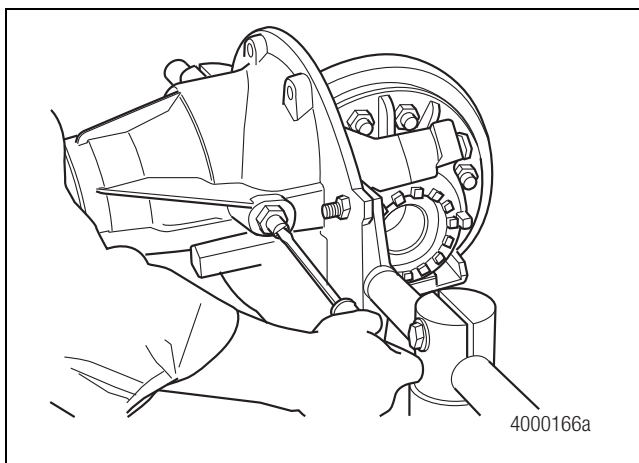
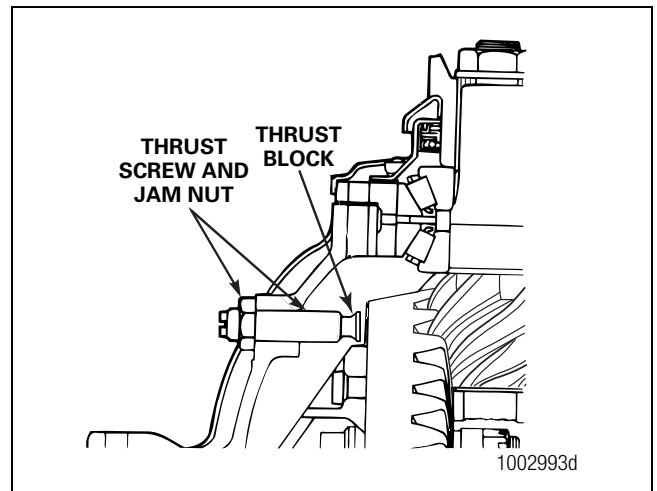

Figure 3.9
Figure 3.15
3. Loosen the jam nut on the thrust screw. Figure 3.9.
10. Remove the thrust screw, jam nut and thrust block from the differential carrier. Figure 3.9 and Figure 3.15.